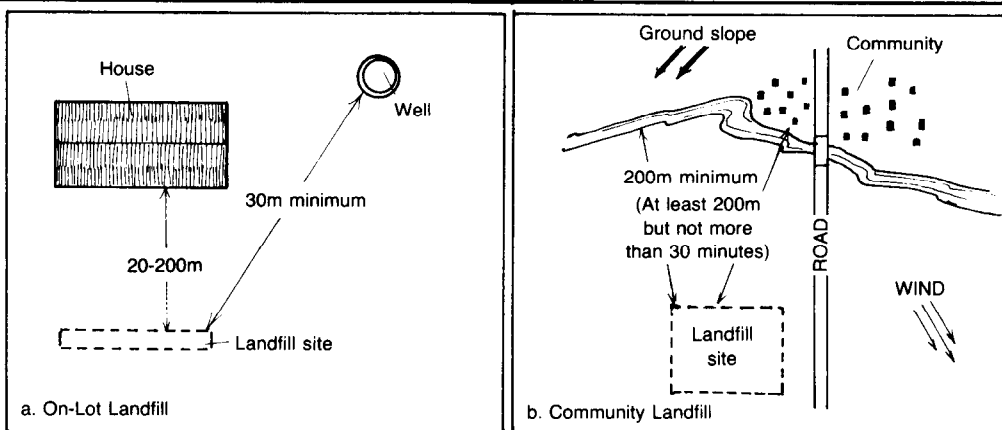

Figure 1. Location Map
1. Location map similar to Figure 1, showing the site for the landfill in relation to dwellings, water wells, streams, roads, and so on.